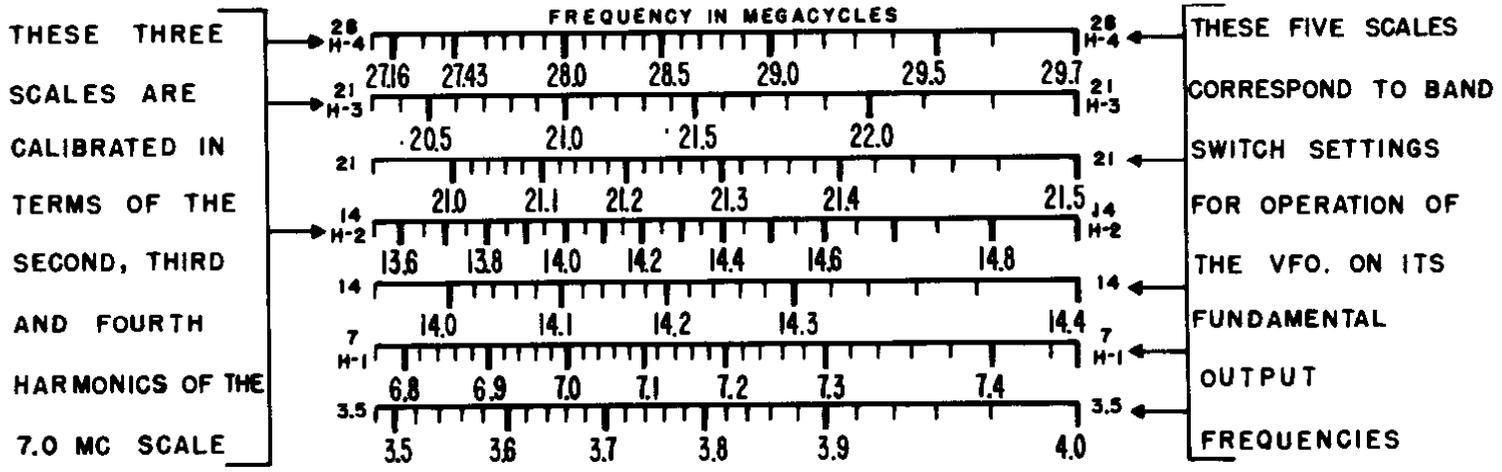

Figure 4. Dial scale calibrations
V.F.O. Operation - Set OPERATION switch at M.O., BAND SELECTOR control for the band of frequencies required to obtain the desired output frequency from the final amplifier stage of transmitter being driven by the HT-18. For example, if a doubler stage follows the HT-18 unit, then the HT-18 output will have to be one-half the frequency of the final amplifier stage, etc. Referring to Fig. 4. you will note that there are five calibrated scales showing the output frequency of the V.F.O. unit. These five scales indicate carrier frequency when the transmitter being driven does not have a frequency multiplier stage. In addition to the five fundamental scales, there are three scales which are multiples of the 6.8 to 7.4 mc. scale. The harmonic scales indicate carrier frequency only when the output of the HT-18 is in the 6.8 to 7.4 mc. band. When the transmitter being driven has a doubler stage use the H-2 scale, a tripler stage use the H-3 scale, or a quadrupler or two doubler stages use the H-4 scale. To set the V.F.O. unit to the receiver frequency, set the CHECK switch handle at